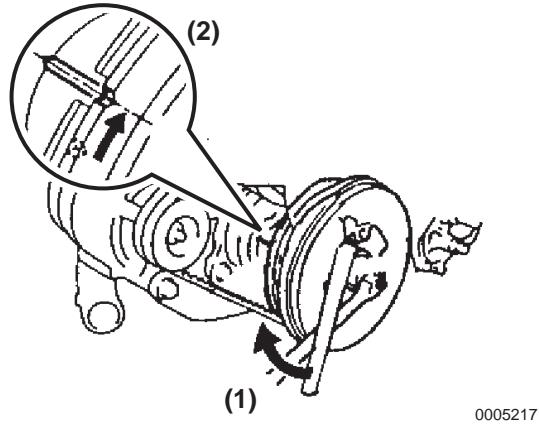

Figure 5-218
2. Turn (Figure 5-218, (1)) the crankshaft pulley clockwise to align its groove to that of the timing gear cover (Figure 5-218, (2)) and set No. 1 cylinder at TDC of the compression stroke.
3. Check that the intake and exhaust valve rocker arm does not move when the crankshaft pulley is turned in the both directions (about 90°). If not, turn the crankshaft 360° and position the mark as shown (Figure 5-218, (2)).
5. Turn the crankshaft pulley 360° and locate the mark as shown in (Figure 5-218, (2)).